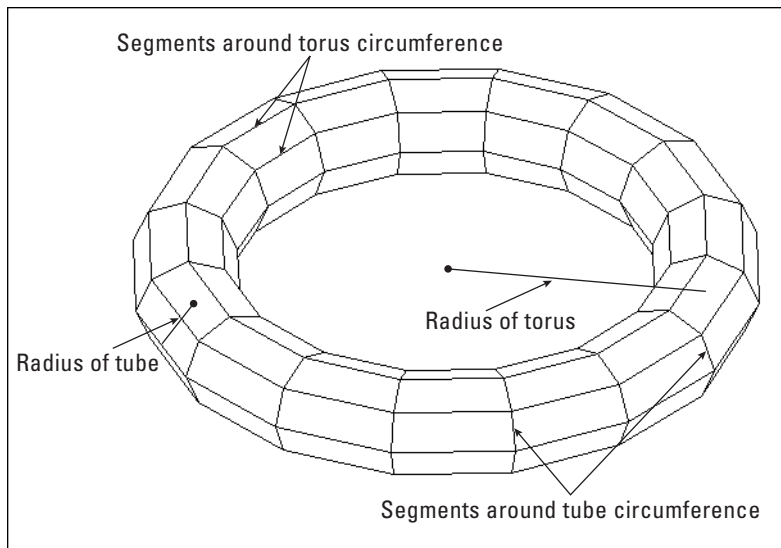

Figure 23-22: A torus
A torus is a 3D donut, as shown in Figure 23-22.
3. At the Specify radius of torus or [Diameter]: prompt, specify the radius of the torus, as shown in Figure 23-22 or use the Diameter option to define the diameter.
4. At the Specify radius of tube or [Diameter]: prompt, specify the radius of the tube, as shown in Figure 23-22, or use the Diameter option to define the diameter.
5. At the Enter number of segments around tube circumference <16>: prompt, specify the number of segments around the tube, as shown in Figure 23-22.
6. At the Enter number of segments around torus circumference <16>: prompt, specify the number of segments around the torus, as shown in Figure 23-22.